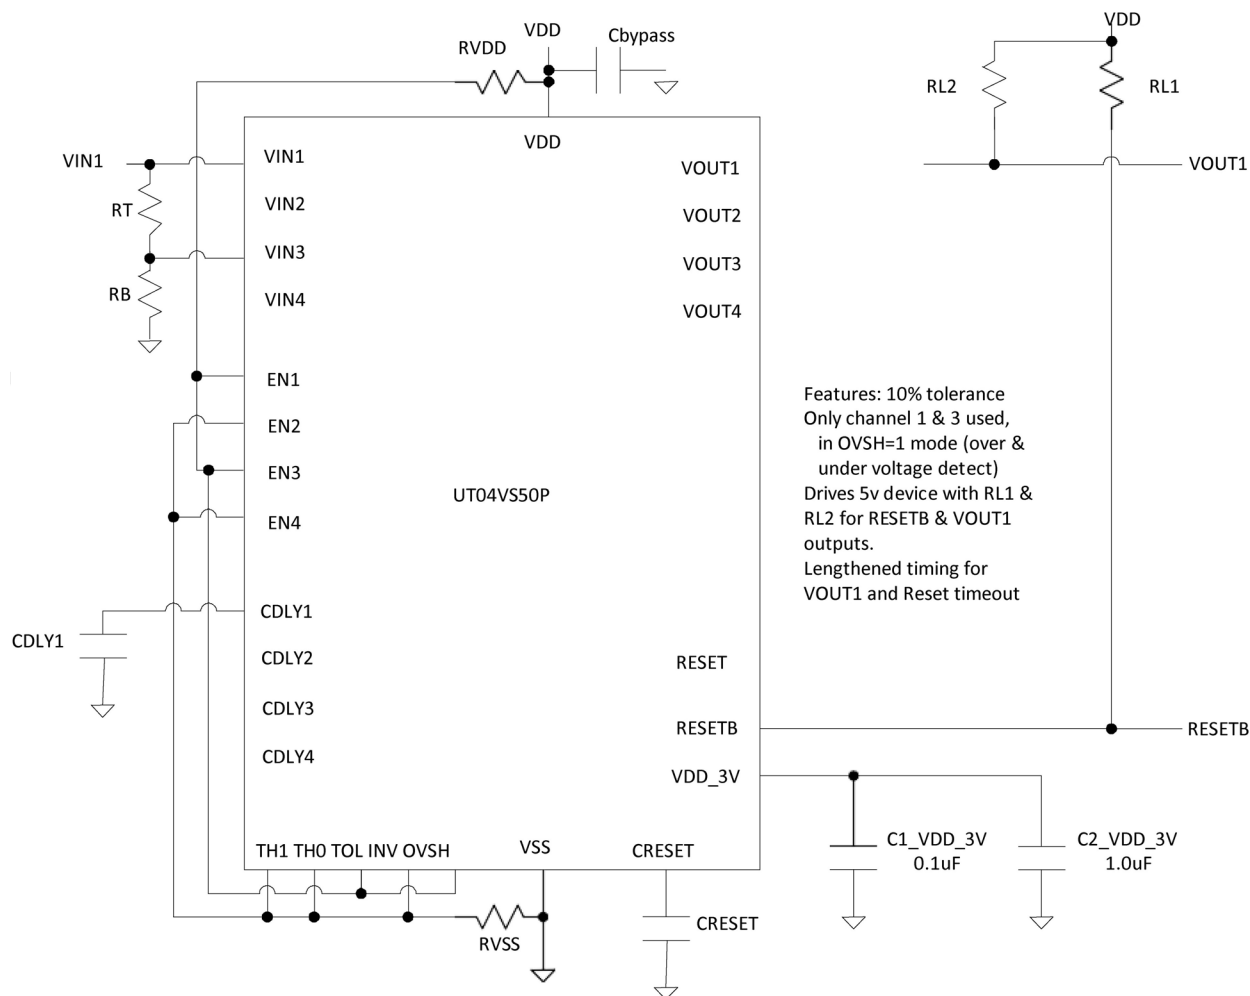
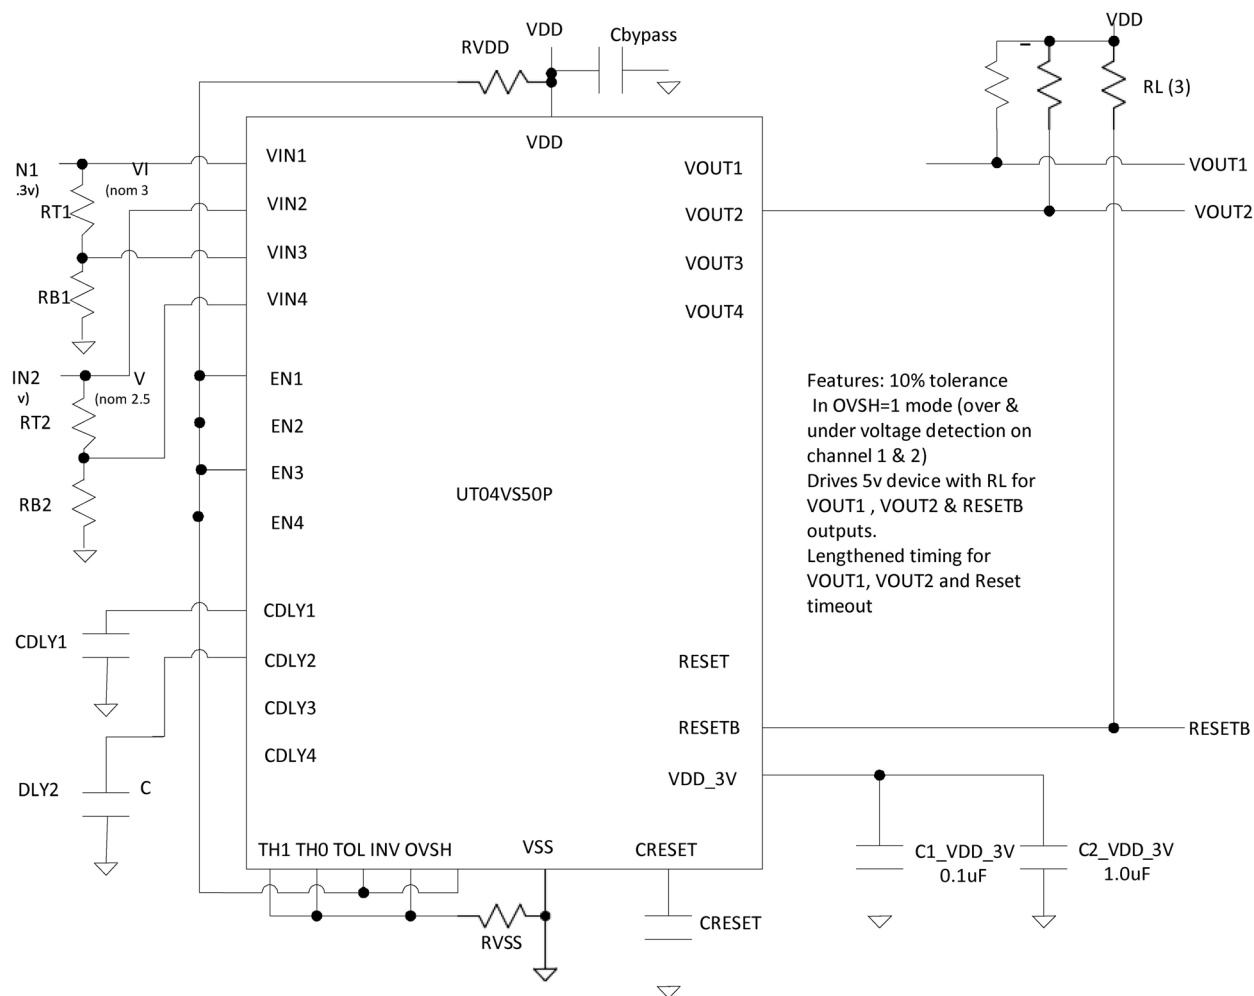

Figure 8. Extended use application showing OVSH connection for channel 1
Figure 9. Extended use application showing OVSH connection for channel 1 and 2
3. For OVSH=1,  $V_{TH\_OVRV}$  is the threshold which is set with external resistors to either the  $V_{IN3}$  or  $V_{IN4}$  input to monitor an over-voltage condition in conjunction with the under-voltage monitor by  $V_{IN1}$  or  $V_{IN2}$ , respectively, as shown in Figure 8 and Figure 9.
Shown in Figure 8 is an extended application showing the use of Cdly and Creset capacitors. OVSH is set to logic 1 to highlight the under- and over-voltage detection mode connections. Thus, a resistor voltage-divider on channel 3 is connected from the channel 1 source.
Shown in Figure 9 is an extended application showing the use of Cdly and Creset capacitors. OVSH is set to logic 1 to highlight the under- and over-detection mode connections on channel 1 and channel 2. Thus an resistor voltage dividers on channel 3 and 4 are connected from the channel 1 and 2 source, respectively.